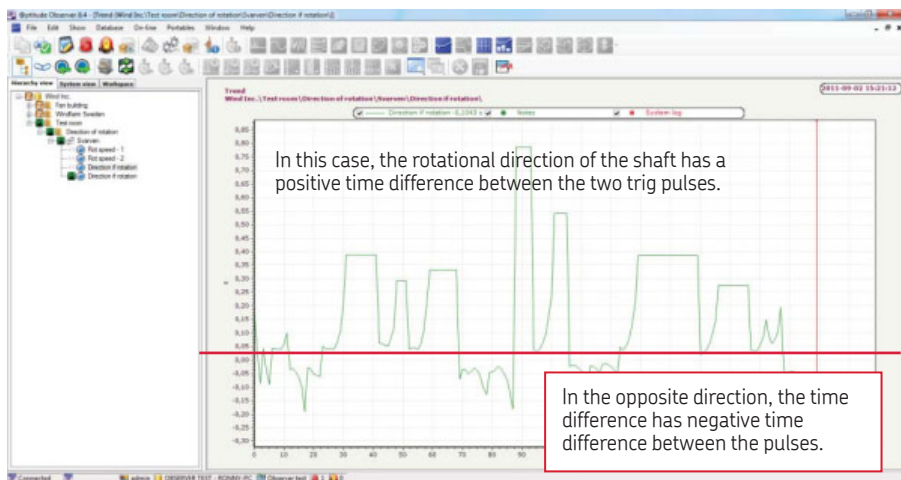

Fig. 12. The trend diagram for the time difference measurement point.
- 5 There is a positive and a negative time difference for this type of measurement (→ fig. 12). For the set up in this example, a positive time difference corresponds to a clockwise direction of the shaft, and the negative time difference corresponds to a counter clockwise direction of the shaft.
NOTE. This observation of the rotational direction needs to be done by the person who sets up the system. When you start up the system, you need to make a note which direction corresponds to the + or – sign in the trend (→ fig. 12).